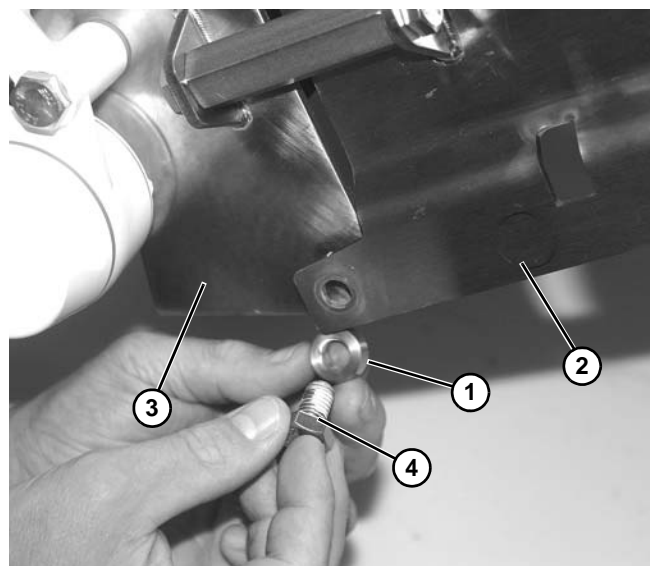

Figure 12
2. Install spacer (**Figure 12, item 1**) between frame (**Figure 12, item 2**) and lower knuckle plate (**Figure 12, item 3**). Secure with screw (**Figure 12, item 4**).